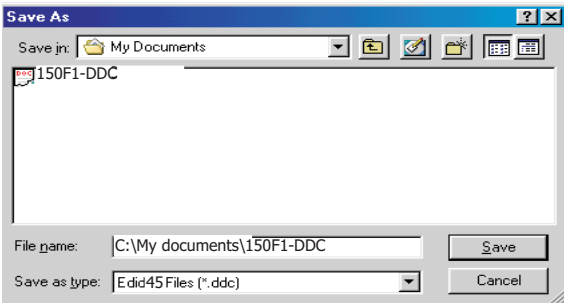

Fig. 24
1. Click  (Save) icon (or click "file"-> "save as") from the tool bar And give a file name as shown in Fig. 24. The file type is EDID45 file (\*.ddc) which can be open in WordPad. By using WordPad, the texts of DDC data & table (128 bytes, hex code) can be modified. If DDC TEXTS & HEX Table are completely correct, it can be saved as .ddc flie to re-load it into DDC IC for DDC Data application.